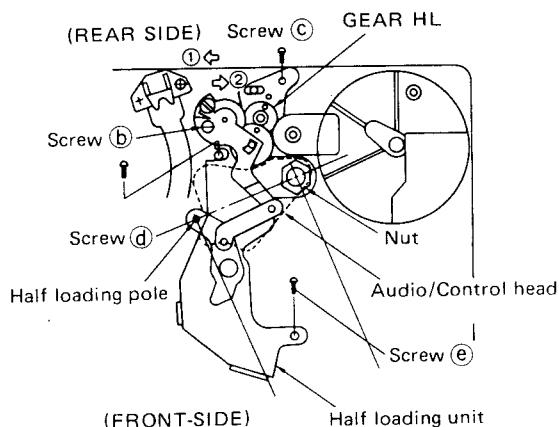

Fig. 4-8
- ① Top cover
- ② Audio/Control head
- ③ Taper nut
- ④ Front loading unit
- ⑤ Half loading unit (Set Screws ④, ⑤ and ⑥ are shown in Fig. 4-8.)
- 3) Remove the set screw ④ in the half loading unit and loosen the set screws ⑤ and ⑥ (see Fig. 4-8). Slide the half loading unit in the direction of the arrow ① to align the three holes B, C and D in the half loading gear to the position shown in Fig. 4-9.
- 4) Slide the half loading unit in the direction of the arrow ② and secure in this position with screws ④, ⑤ and ⑥. Adjust the half loading pole position according to 4-5-3 before performing interchangeability and A/C HEAD adjustments and secure it with screw ⑤ for the time being.